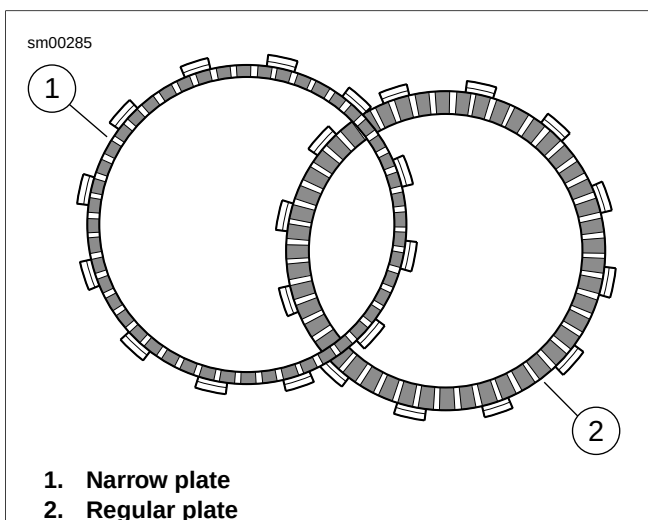

Figure 5-35. Friction Plates
2. See Figure 5-35. Install narrow friction plate on the clutch hub, engaging tabs on plate with slots in clutch shell.